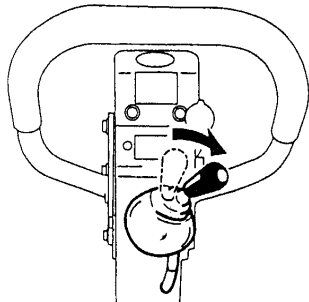

Figure 17. Throttle Lever (Stop)
- Turn the throttle lever to the STOP position (Figure 17) to stop the engine.